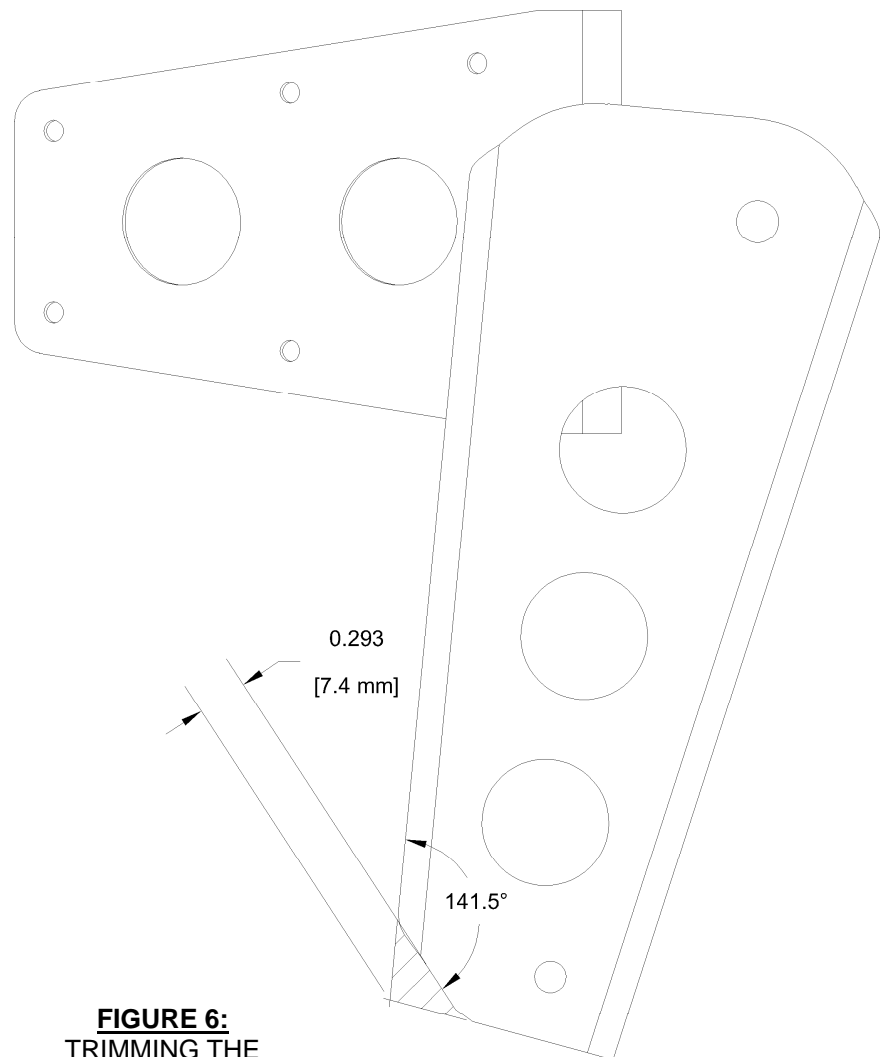

FIGURE 6:
Step 16: If applicable, trim the lower aft corner of the WD-605-Elevator Horn as shown in Figure 6. Deburr and prime the trimmed edge.